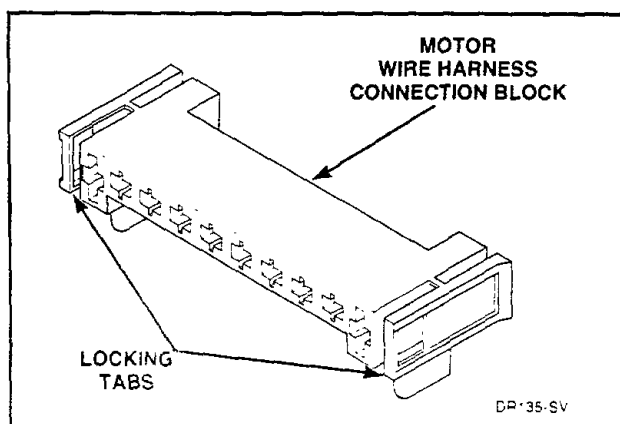

Figure 35
- g. Disengage motor wire harness connection block from motor switch by pressing in on the movable locking tabs (located on each end of the connection block) and pulling away from motor, *Figure 35*.
- (1) Disengage motor wire harness connection block from the motor by pressing in on the movable locking tabs (located on each side of the connection block) and pulling away from motor, *Figure 35*.